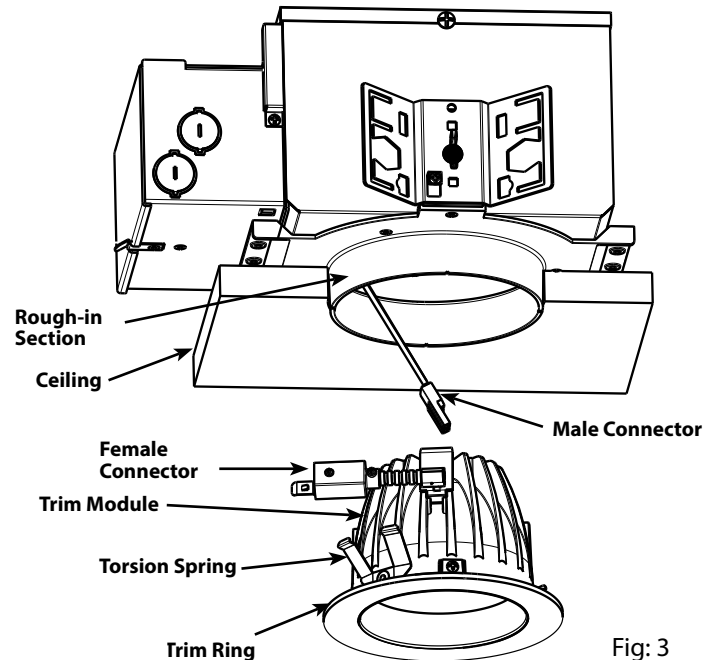

Fig: 3
1. Pull **Male Connector** conduit through frame opening. Raise **Trim Module** towards opening and connect to **Female Connector** conduit as shown in Fig. 3.